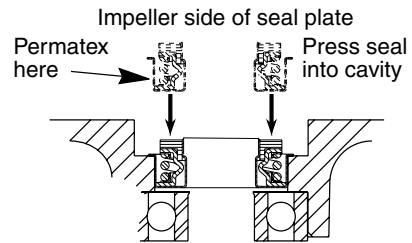

Figure 2
**NOTICE:** Make sure that seal faces are clean and undamaged. Apply Permatex #2 or equivalent sparingly to outside edge of seal body (with spring) Figure 2.
1. Press new seal body into cavity in seal plate (Figure 2).